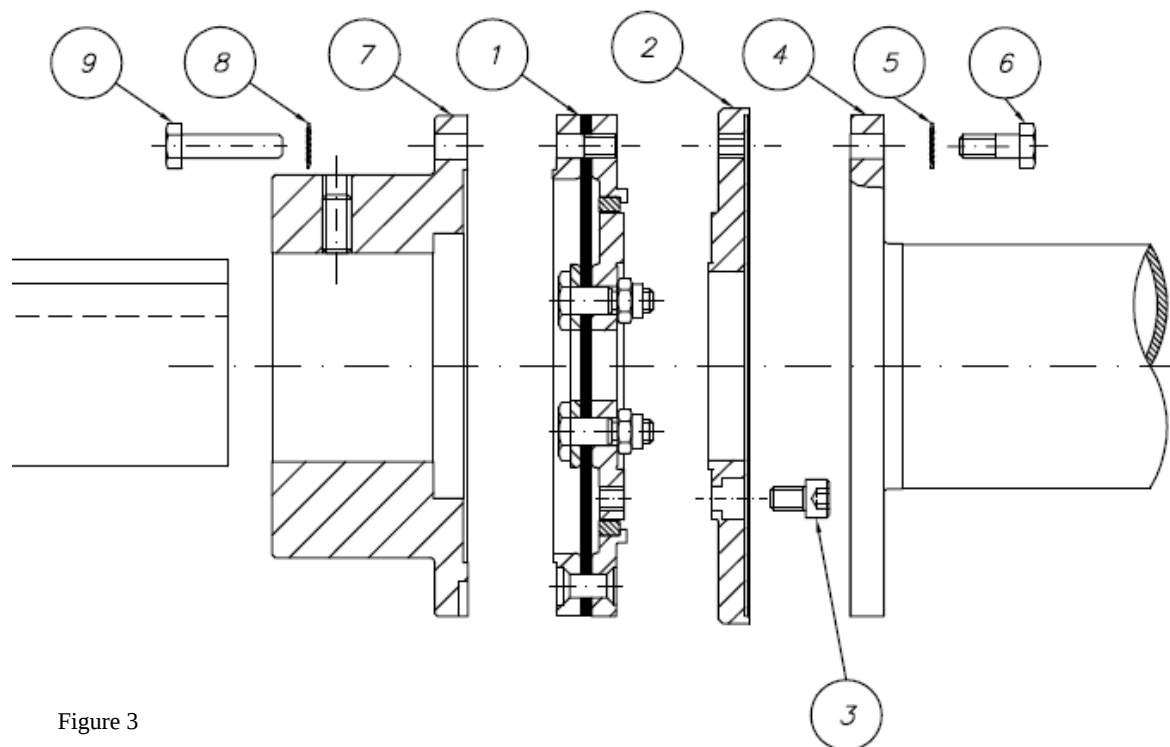

Figure 3
* refer to figure 3 for definition of Transmissions Unit